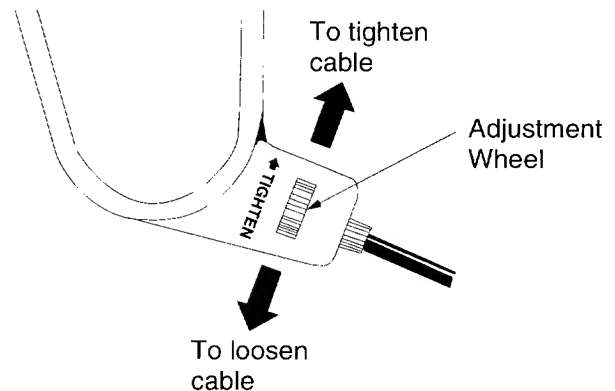

Figure 13
- To resolve the above problems, rotate the adjustment wheel with your fingers: clockwise to tighten the cable, and counter-clockwise to loosen the cable. See Figure 13.